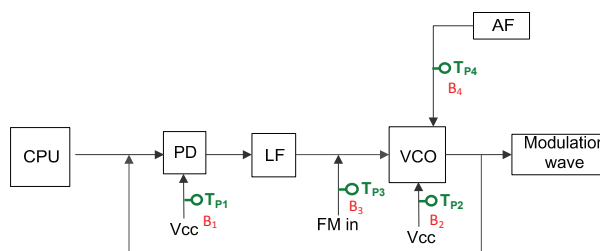

Figure A-7. Circuit location of each test point
- TP2, TP3 and TP1 are used to monitor for breaks in the circuit. For the position of each test point, please see Figure A-7.